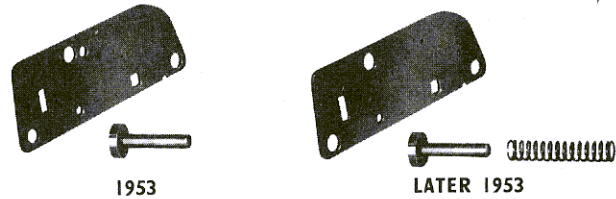

Fig. 51 2-1 detent plug and 2nd speed start spring
Tilt the inner valve body so that the valves protrude. Remove the 3-4 governor plug (46), the 2-1 detent plug and spring (50 and 47) and the 2-3 governor plug (51). Early control valve units are not fitted with a 2-1 detent plug spring (see Fig. 51). Note also the difference in the oil guide plates.